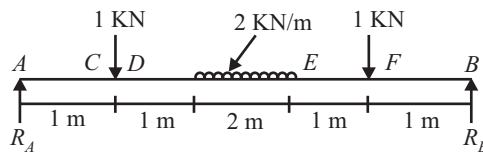

Fig 12.8
Q.9: Draw the SF and BM diagram for the simply supported beam loaded as shown in fig. 12.8.